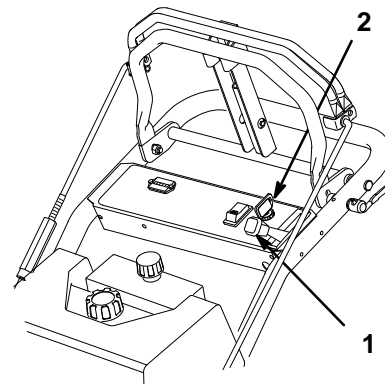

Figure 10
1. Move the throttle lever to “SLOW” (Fig. 10).
2. Turn the ignition key to “OFF” (Fig. 10).